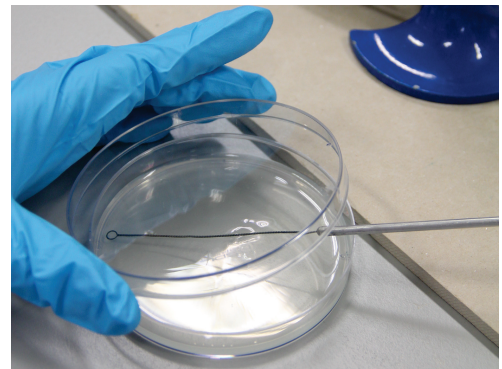

Fig. 3
6. Raise the lid of the agar plate at about 45°[^] (Fig. 3). Put the inoculating loop onto the agar.